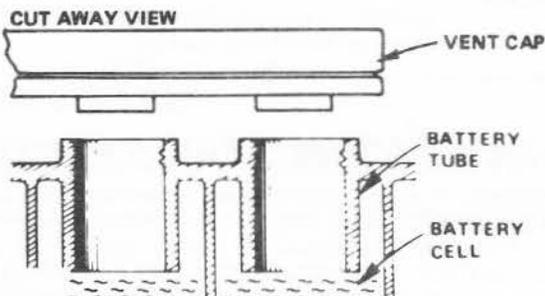

FIGURE 26
- a. Electrolyte solution level in each Battery Cell should be even with bottoms of tubes in cells (Fig. 26). Add distilled water if necessary. NOTE: DO NOT OVERFILL.